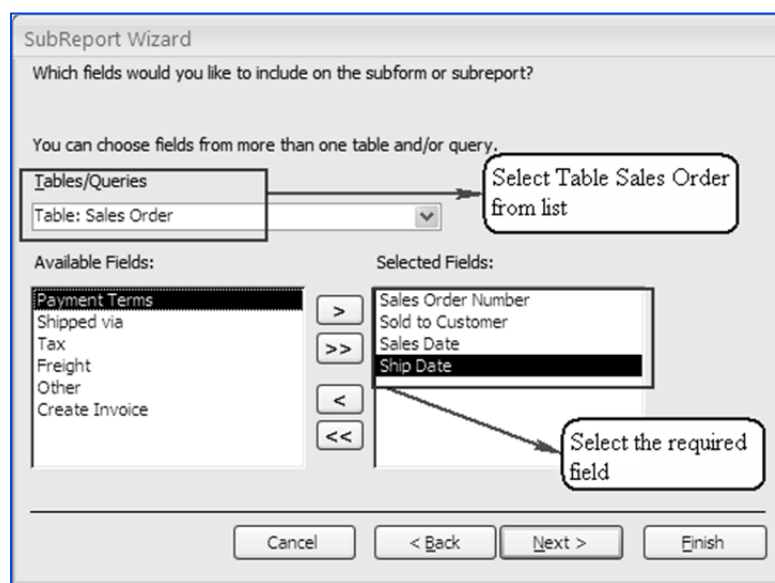

Fig. 2.4.16. Select required Table
5. In the *Select Table or Query* window, select the table *Sales Orders* from the list. Select the fields *Sales Order Number*, *Sale to Customer*, *Sales Date*, *Ship Date* from selected field to available field, as shown in Fig. 2.4.16.